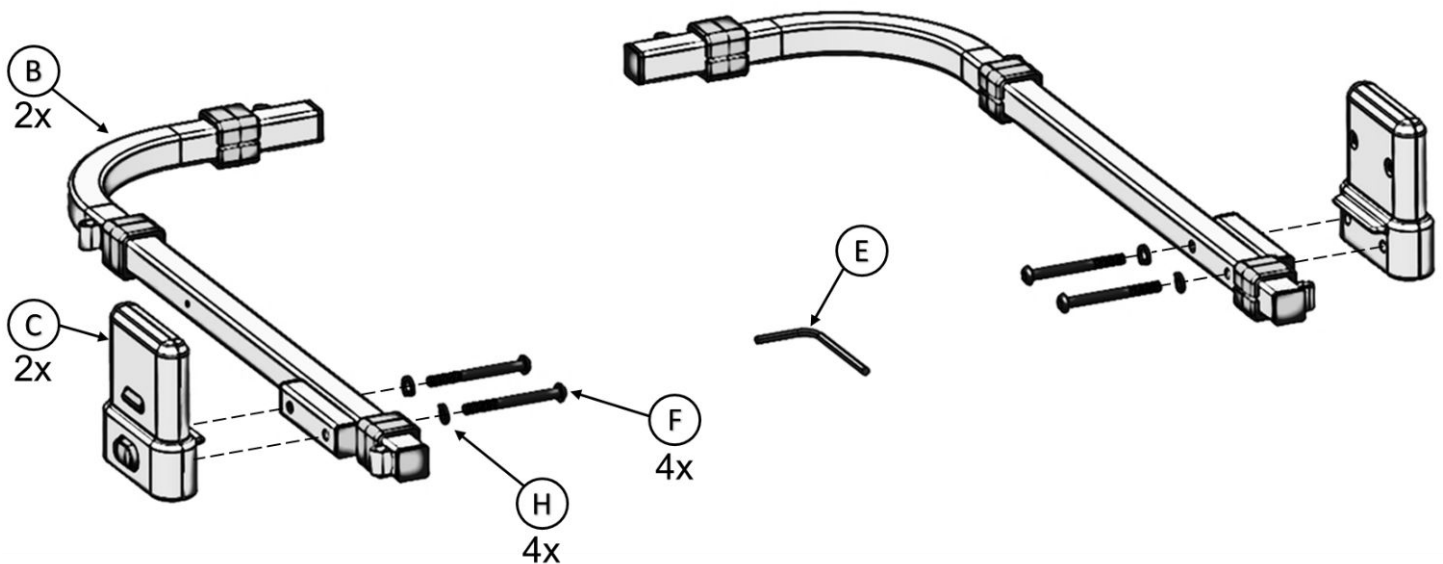

FIGURE 2
2. Align holes in **B** and **C** as shown in *FIGURE 2*. Insert **H** into **F** then insert **F** through **B** and **C**. Secure with **E**.